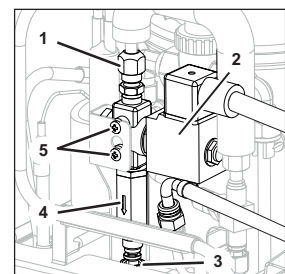

Fig. 69
2. Release the coupling (Fig. 69/1) on the solenoid valve (Fig. 69/2).
3. Release the coupling (Fig. 69/3) on the non-return valve (Fig. 69/4).
4. Remove the fastening bolts (Fig. 69/5) from the solenoid valve (Fig. 69/2).
5. Lift the solenoid valve (Fig. 69/2) with the non-return valve (Fig. 69/4) out of the unit.
11. Attach the solenoid valve (Fig. 69/2) and the non-return valve within the unit (Fig. 69/4) with the assistance of the couplings (Fig. 69/1 and Fig. 69/3).
12. Attach the solenoid valve (Fig. 69/2) on the unit using the fastening bolts (Fig. 69/5).